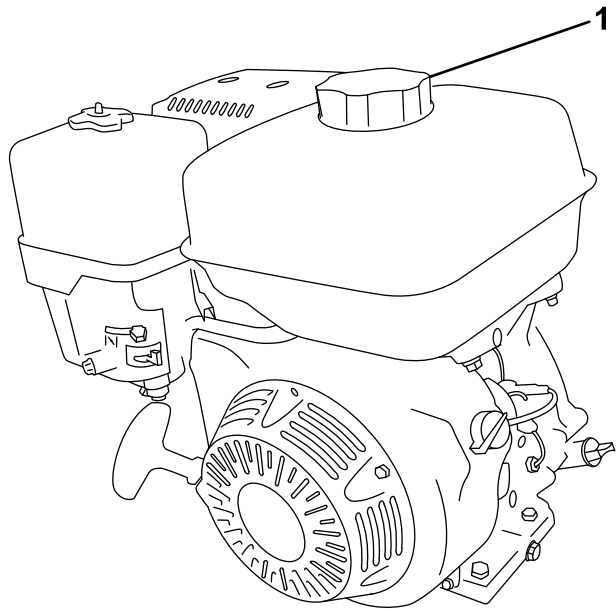

Figure 33
2. Clean around the fuel-tank cap, and remove it (Figure 33).
4. Install the fuel-tank cap securely (Figure 33).